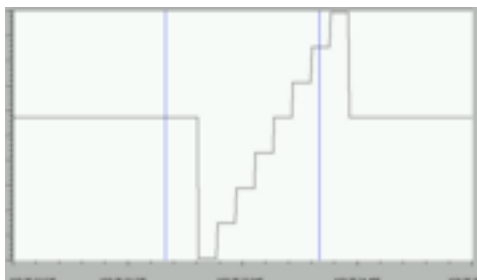

Figure 6-7: An example of a continuous step protocol.
- 5 Press the **Start** button. The resulting wave would be similar to the step-wise elevation of output amplitude seen in Figure 6-7 on page 80.